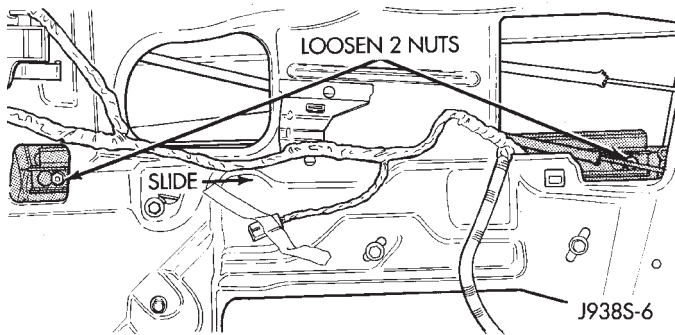

Fig. 6 Front Door Window Track
(1) Remove door trim panel and waterdam. If necessary, refer to removal procedure.
(2) Position window glass to access window track nuts (Fig. 6).
(3) Loosen 2 window track nuts and slide track off of the window (Fig. 6).
(2) Remove beltline molding and weatherstrip seals.
(3) Remove window track retaining nuts (Fig. 6). If necessary, refer to removal procedure.
(4) Lift window glass upward and out of door.